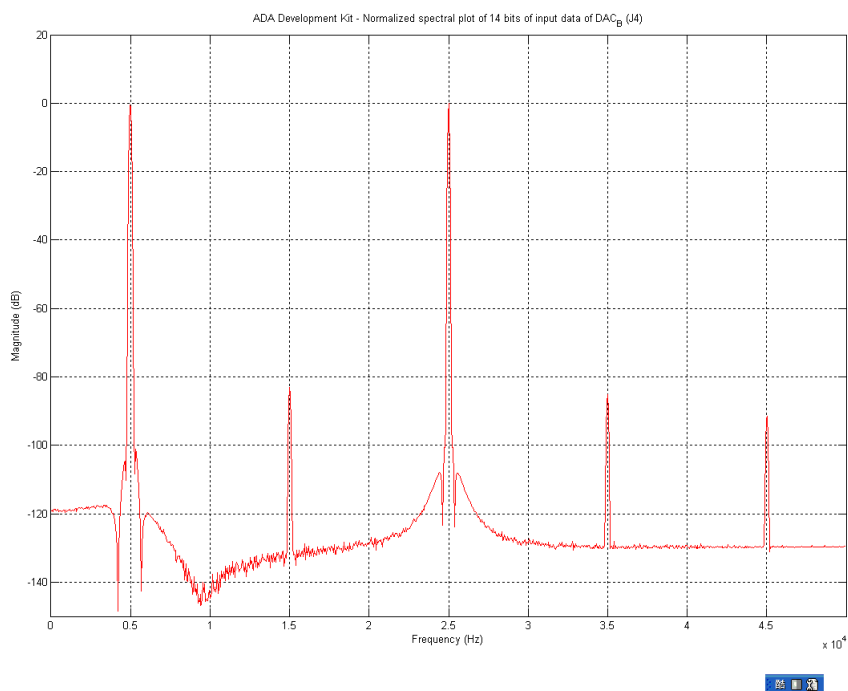
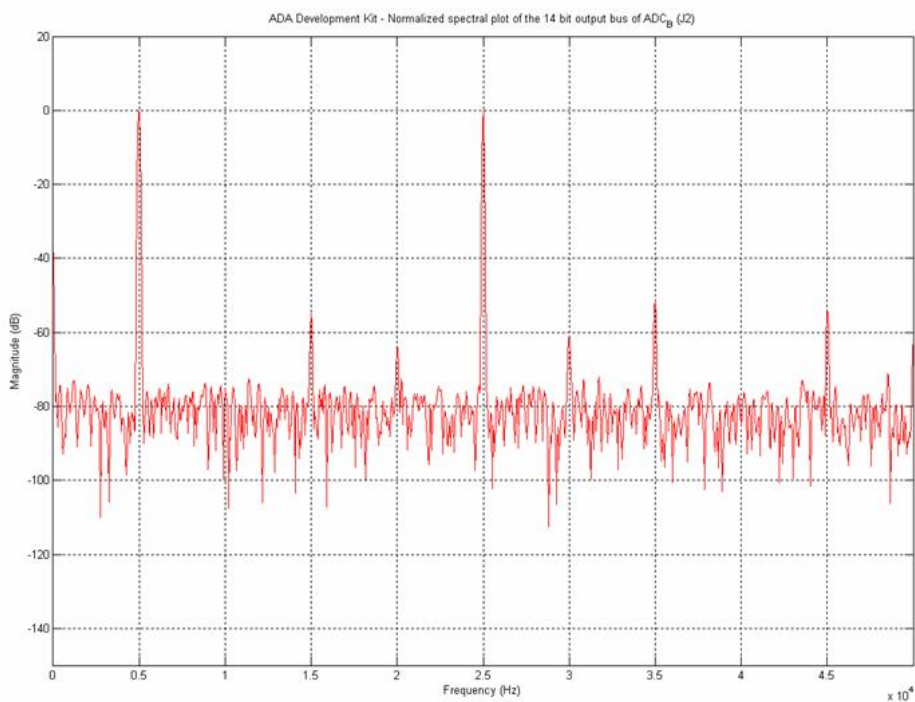

Figure 4-6 Normalized Spectral Plot of The 14-bit DAC B Input Data
Figure 4-7 Normalized Spectral Plot of The 14-bit ADC B Output Data
4. Type nstp\_plot('stp1\_auto\_signaltap\_0.txt') at the MATLAB command prompt. The MATLAB will display normalized FFT plots of DAC B input and ADC B output similar to **Figure 4-6** and **Figure 4-7**, respectively.